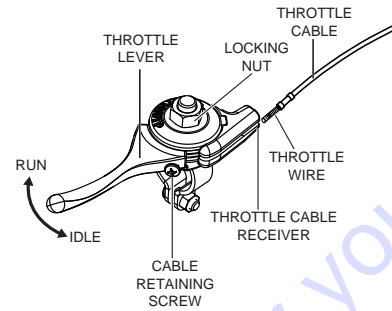

Figure 13. Adjusting Cable Tension
7. On the throttle lever, slightly loosen the locking nut and cable retaining screw as shown in Figure 13.
8. Ensure that the cable housing is seated in the throttle cable receiver as shown in Figure 13.
9. Route throttle wire past the cable retaining screw (Figure 13) approximately 1/2". To secure throttle wire, tighten the cable retaining screw.
10. Adjust cable tension by loosening or tightening the locking nut and cable retaining screw on the throttle lever (see Figure 13).